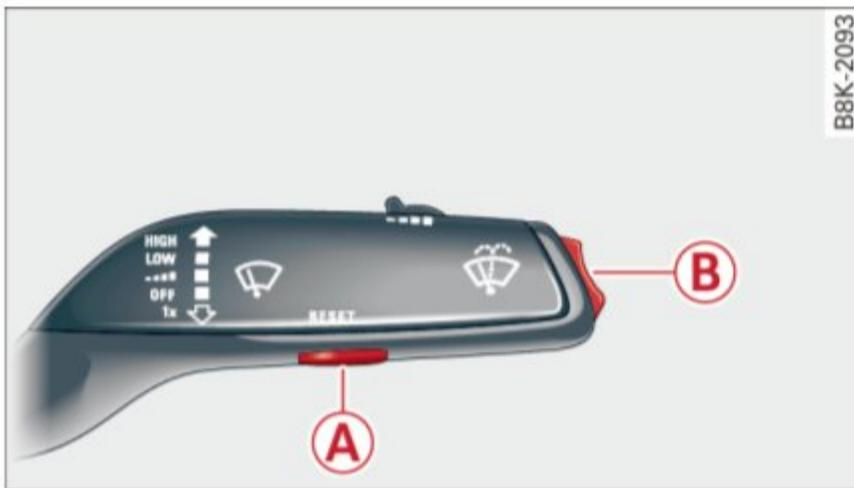

Fig. 11 Windshield wiper lever: controls for the trip computer
You can switch between the trip computer 1 and 2 and the efficiency program* by pressing the **RESET** button **A** ⇒ page 25, fig. 11.
- ▶ To display the trip computer memory levels, press the **RESET** button (A) ⇒ fig. 11 repeatedly until the desired memory level is shown in the display.
- ▶ To display trip information within a memory level, press the top or bottom part of the function selection switch (B).
- ▶ Press the **RESET** button  ⇒ *page 25, fig. 11* repeatedly until the efficiency program appears in the display.
- ▶ In the efficiency program, press the function selection switch ⇒ page 25, fig. 11 (B) repeatedly until the enhanced shift indicator appears in the display.
- ▶ In the efficiency program, press the function selection switch ⇒ page 25, fig. 11 (B) repeatedly until the other equipment appears in the display.
- ▶ To turn a fuel economy message off immediately after it appears, press the **RESET** button ⇒ page 25, fig. 11 **A**, or
- ▶ Press the function selection switch ⇒ page 25, fig. 11 **B**.